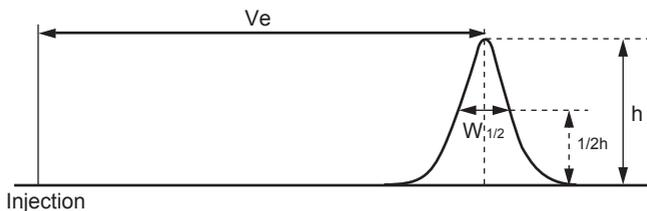

Figure 5 Method of Calculating Theoretical Plate Number
The theoretical plate number (N) of a column is calculated by the half width method shown in Figure 5 and the following equation.